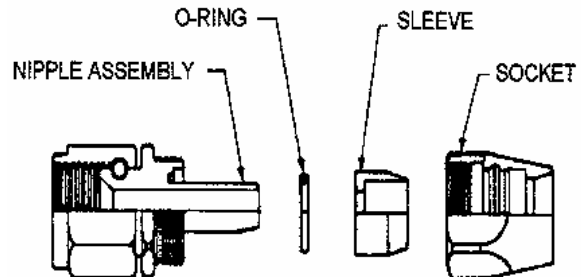
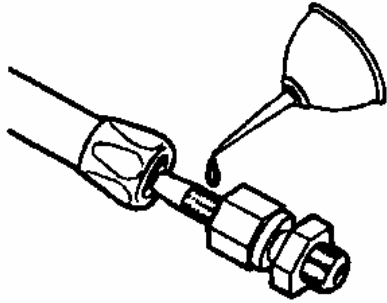
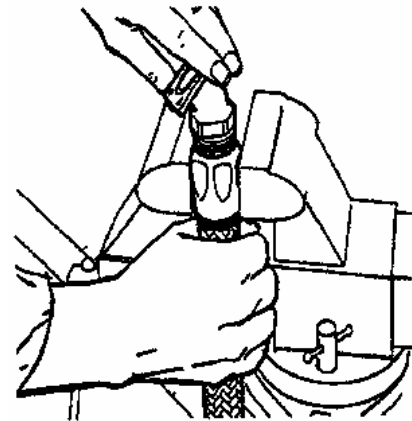

Figure 4. Stratoflex Fitting
Figure 6. Low- and Medium-Pressure
Figure 8. Medium-Pressure
i. Assemble O-ring, sleeve, and nipple (Figures 4 and 5).
(1) For Stratoflex fittings, install O-ring seal on nipple. Install sleeve on nipple with sleeve touching O-ring.
(2) Aeroquip and Deutsch fittings do not require O-ring assembly.
j. Lubricate hose and hose fitting with hydraulic fluid MIL-PRF-83282 (Figure 6).
(1) On Stratoflex fittings, lubricate inside bore of hose, socket threads, O-ring, and outside diameter of sleeve.
(2) On Aeroquip and Deutsch fittings, lubricate inside bore of hose and nipple threads.
k. Insert nipple into socket. Engage threads by turning nipple clockwise and pressing firmly while holding the hose with one hand (Figure 8).
k. Assemble O-ring, sleeve, and nipple (Figure 4).
l. Insert nipple into socket. Engage thread by turning nipple clockwise and pressing firmly while holding hose with one hand (Figure 8).
h. Insert nipple into socket. Engage thread by turning nipple clockwise and pressing firmly while holding the hose with one hand (Figure 8).
(1) On Stratoflex fittings, the allowable gap between nipple hex and socket is .015 to .060 inch.
(2) On Aeroquip and Deutsch fittings, tighten both elbows to within 1/32 inch of sockets.